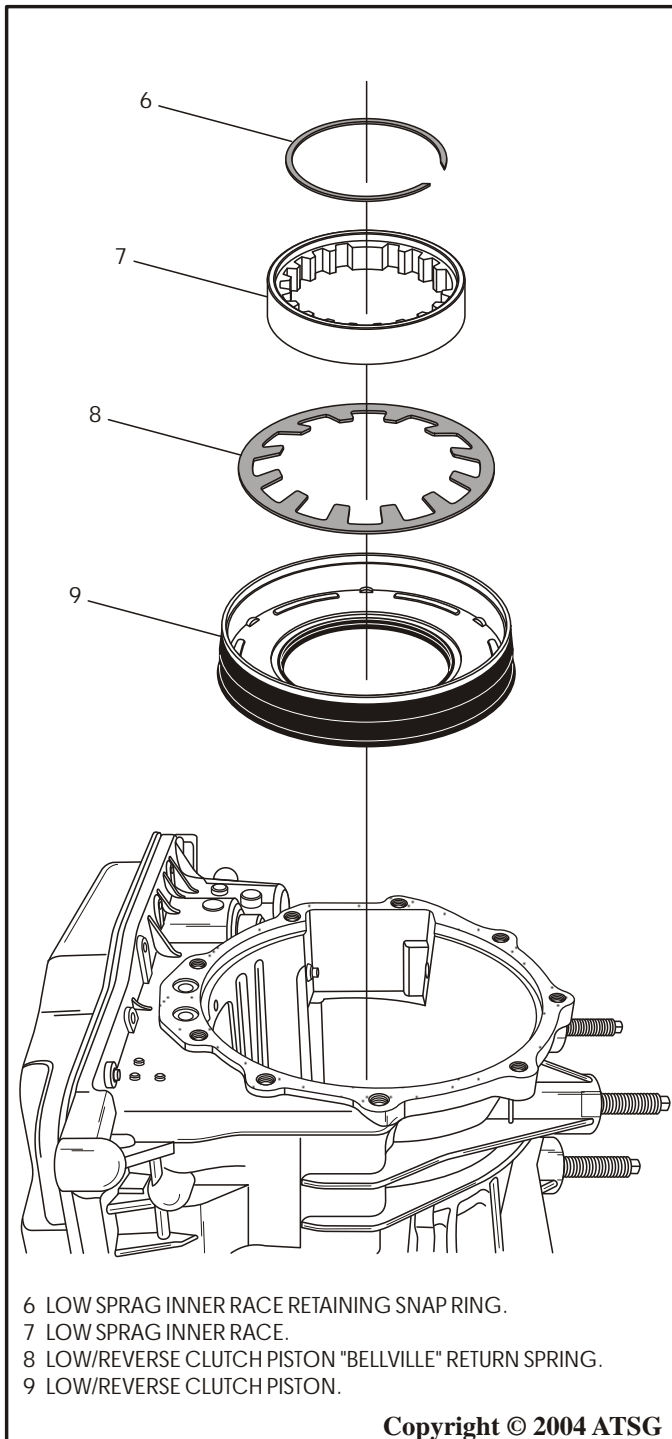

Figure 32
24. Remove the low sprag inner race retaining snap ring, as shown in Figure 32.
25. Remove the low sprag inner race, as shown in Figure 32.
26. Remove the low/reverse clutch piston bellville return spring, as shown in Figure 32.
27. Remove the low/reverse clutch molded piston, as shown in Figure 32.